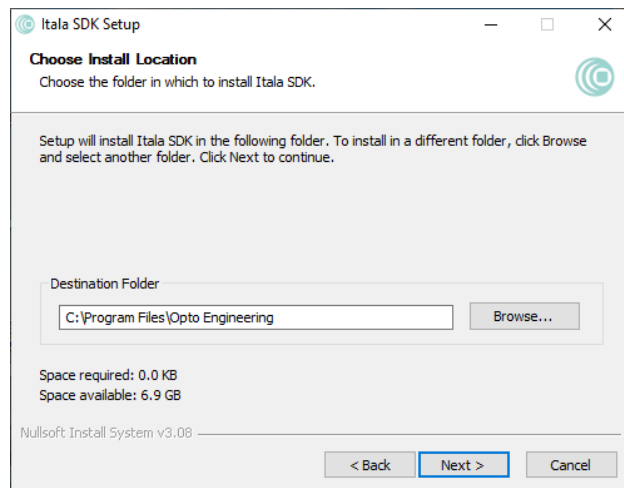

Figure 8: Itala SDK destination folder window.
4. Choose the destination folder (Fig.8).